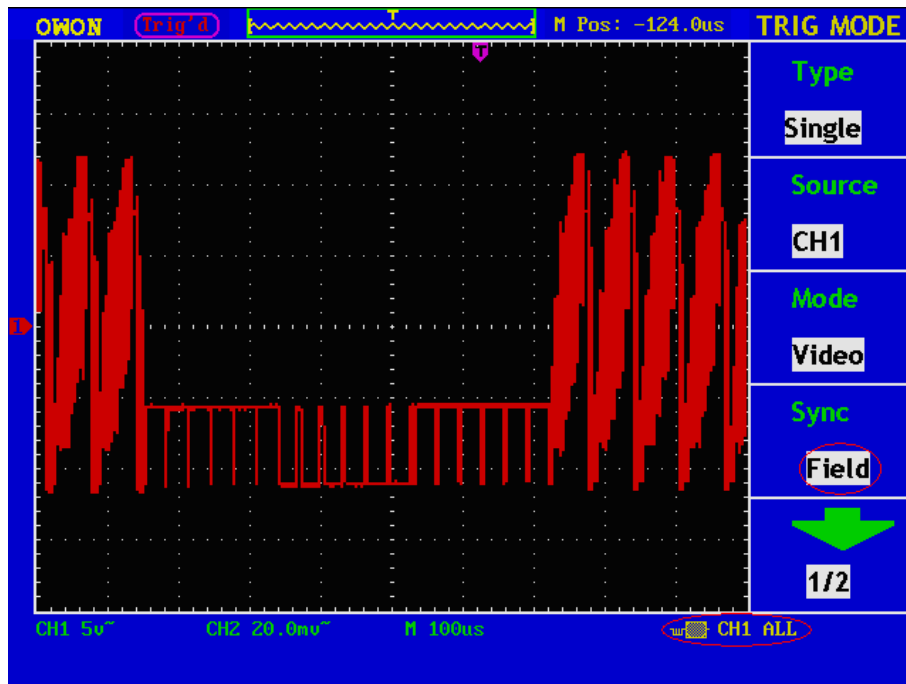

Fig.6-7 Wave Form Obtained from Video Field Trigger
6. Adjust the **VOLTS/DIV**, **VERTICAL POSITION** and **SEC/DIV** knobs to obtain a proper wave form display (see **Fig.6-7**).